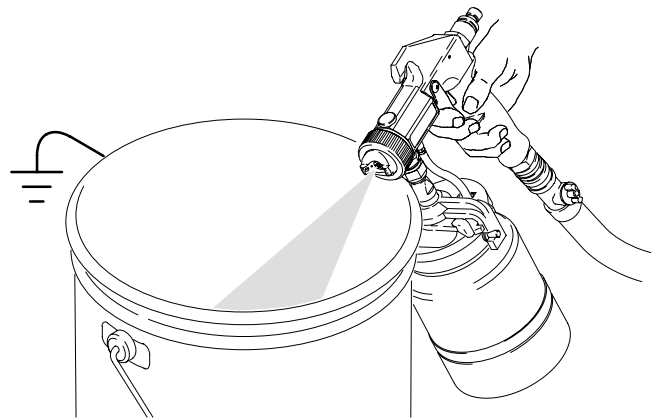

Fig. 15
6. Point gun down into container and flush until solvent runs clean. See Fig. 15.